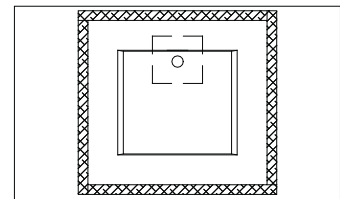

Figure 3
4. Mask the entire support surface/counter around the lavatory. (Figure 3)